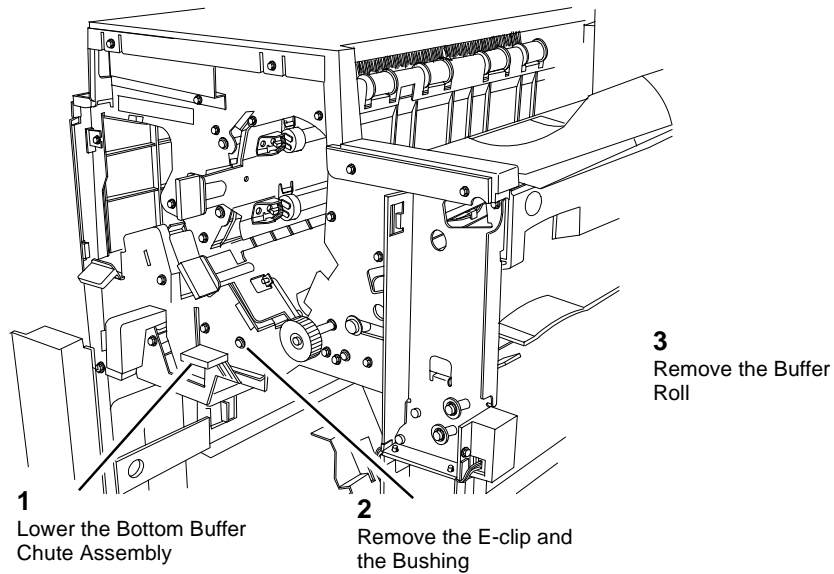

Figure 5 Removing the Buffer Roll
10. Remove the Buffer Roll (Figure 5).